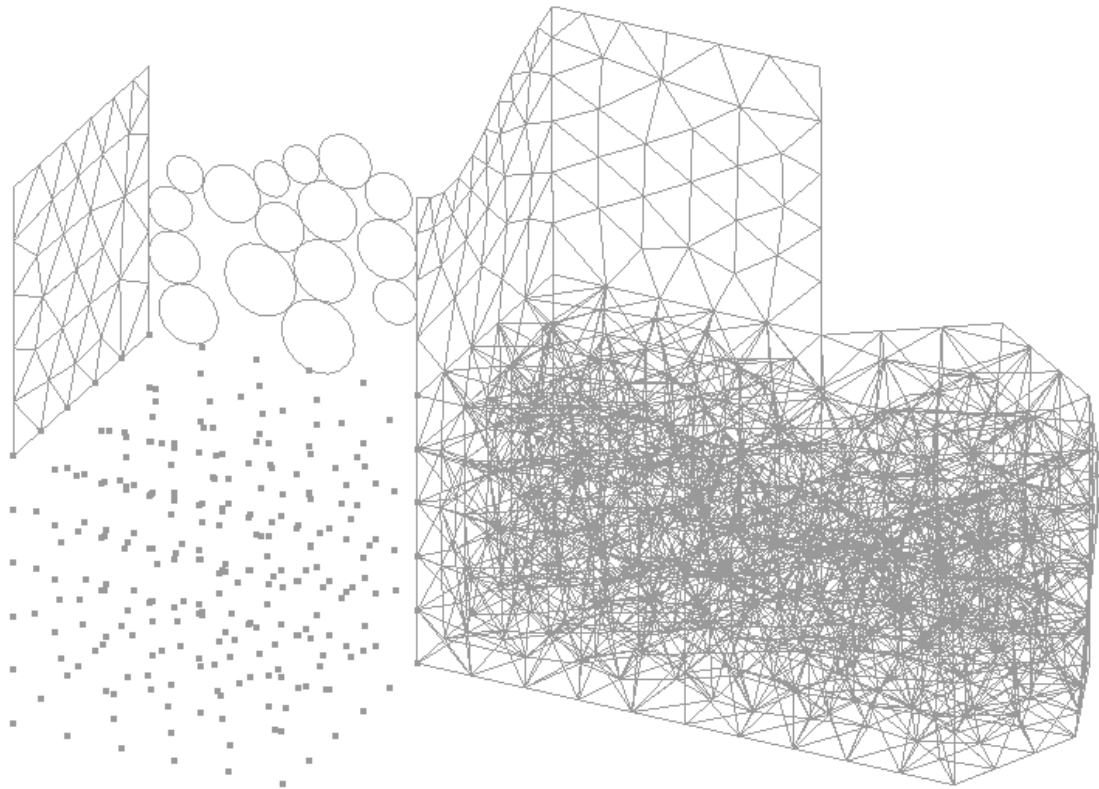

Figure 5. Generating a mesh on a volume using points.
- 4 . Another window appears in which to enter the maximum element size. Leave the default value unaltered and click **OK**. The result is a mesh as illustrated in Figure 5.